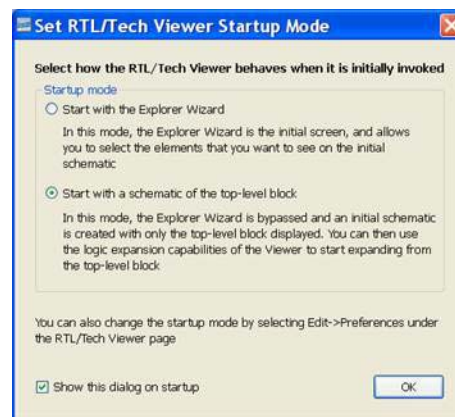

Figure 5-20: Startup Modes
3. Select the **Start with a schematic of the top-level block** startup mode, and click the **OK** button as shown in Figure 5-20: